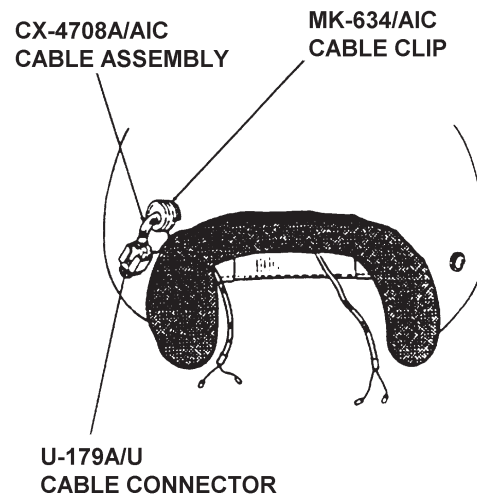

Figure 3-1. CX-4708A/AIC Cable Assembly Connector Secured to Helmet Assembly
3. Inspect the MK-634/AIC cable clip (if used) for security to the helmet. See Figure 3-1 on Page 3-6.
2. (Optional) Secure the CX-4708A/AIC cable assembly connector (U-179A/U) to the helmet shell assembly, using the MK-634/AIC cable clip as shown in Figure 3-1.